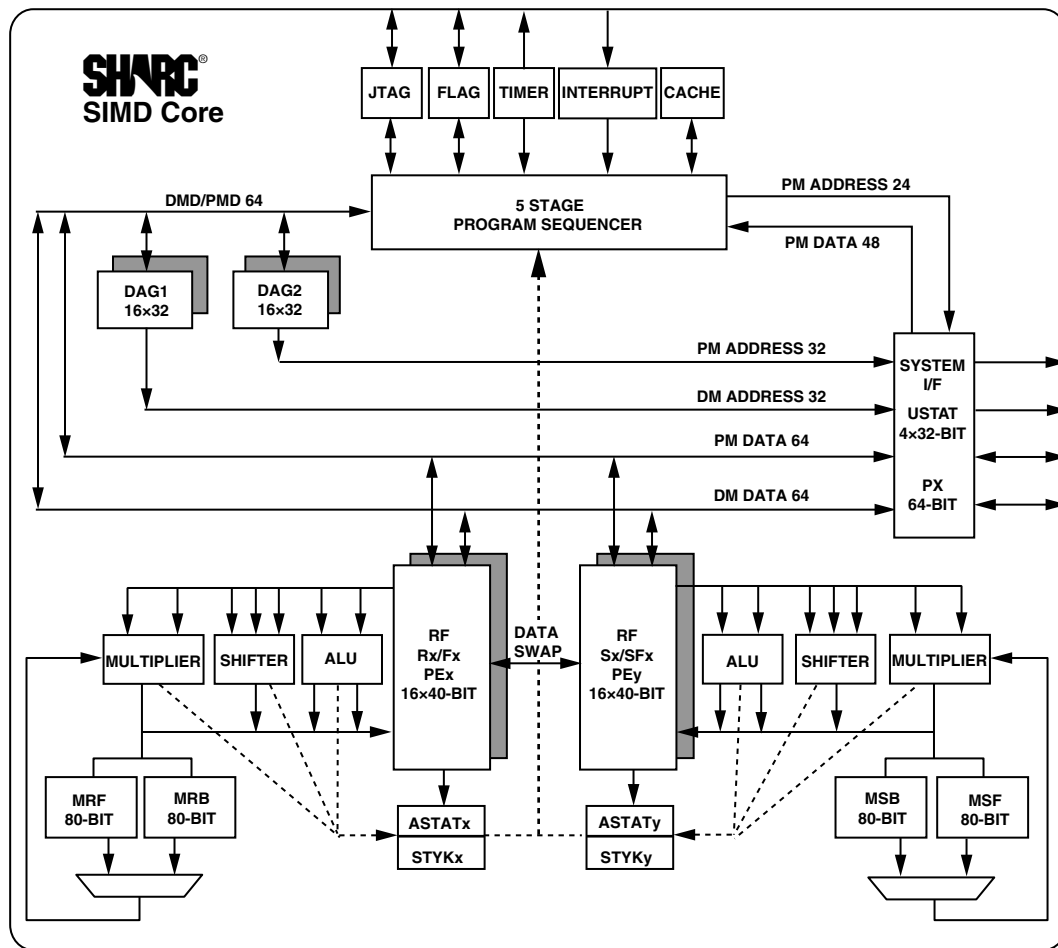

Figure 2. SHARC Core Block Diagram
The processors are code compatible at the assembly level with the ADSP-2146x, ADSP-2137x, ADSP-2136x, ADSP-2126x, ADSP-21160, and ADSP-21161, and with the first generation ADSP-2106x SHARC processors. The ADSP-2147x shares architectural features with the ADSP-2126x, ADSP-2136x, ADSP-2137x, ADSP-2146x, and ADSP-2116x SIMD SHARC processors, as shown in Figure 2 and detailed in the following sections.
The processors feature an enhanced Harvard architecture in which the data memory (DM) bus transfers data and the program memory (PM) bus transfers both instructions and data (see Figure 2). With its separate program and data memory buses and on-chip instruction cache, the processor can simultaneously fetch four operands (two over each data bus) and one instruction (from the cache), all in a single cycle.